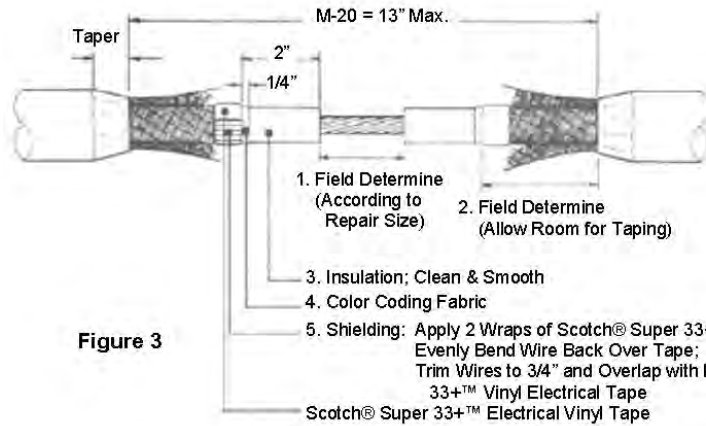

Figure 3
2. **600/2000 Volt Shielded Portable Cable (Figures 3 & 4)**